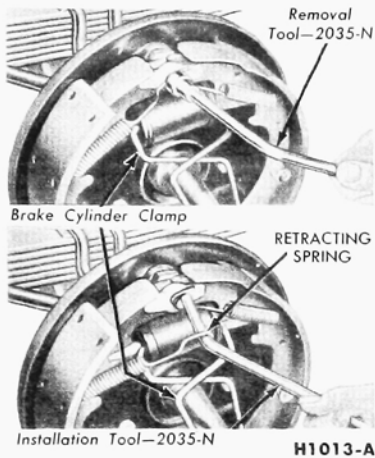

FIG. 7—Retracting Spring Removal and Installation
2. Clamp the brake cylinder boots against the ends of the cylinder, and remove the brake shoe retracting springs from both shoes (Fig. 7).
5. Install the brake shoe retracting springs on both shoes (Fig. 7), being careful not to bend the hooks or to stretch the springs beyond the attaching points. **The primary shoe spring must be installed first.**
2. Clamp the brake cylinder boots against the ends of the cylinder and remove the four brake shoe retracting springs with the tool shown in Fig. 7.
4. Install the four retracting springs with the tool shown in Fig. 7.